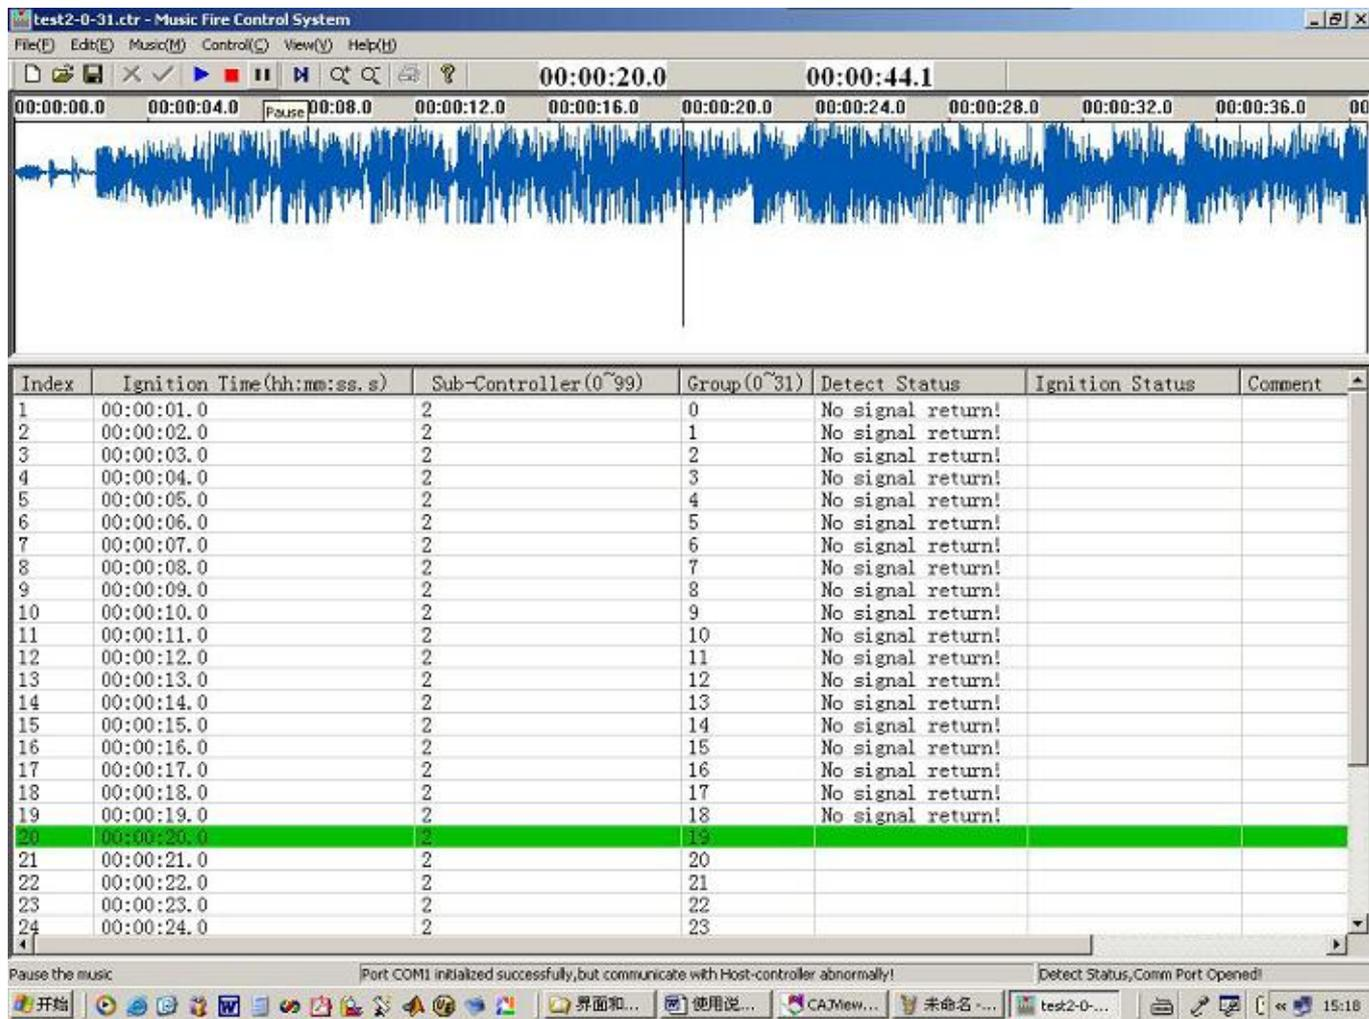

fig 29 Detection
9. Detection of Control points. Click the menu “Control” ”Detect”, the control system will enter the detection status. “Detect status, the Comm port is iopened” will show in the status bar in the right-bottom corner. Click the”Play” button in the toolbar, the detection task will be performed so. The status of control points will be returned and show in the report table. As show in fig 29.